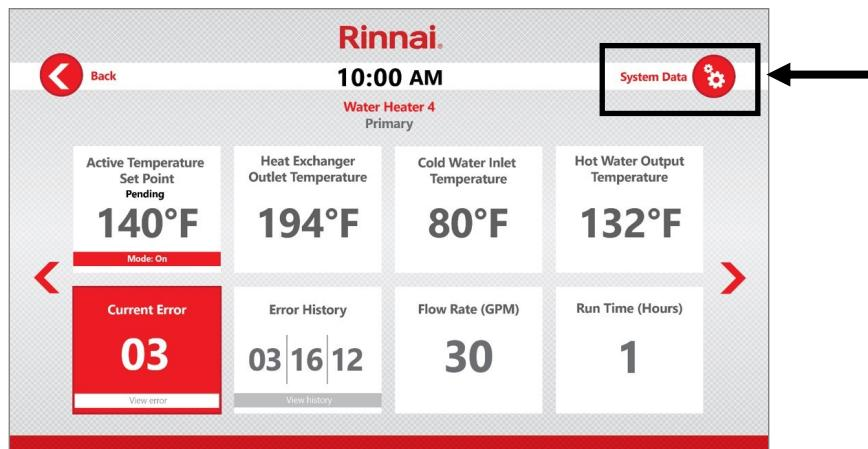

Fig 73. Press “System Data”
1. On the tankless water heater parameter screen, press “System Data” (Fig 73).